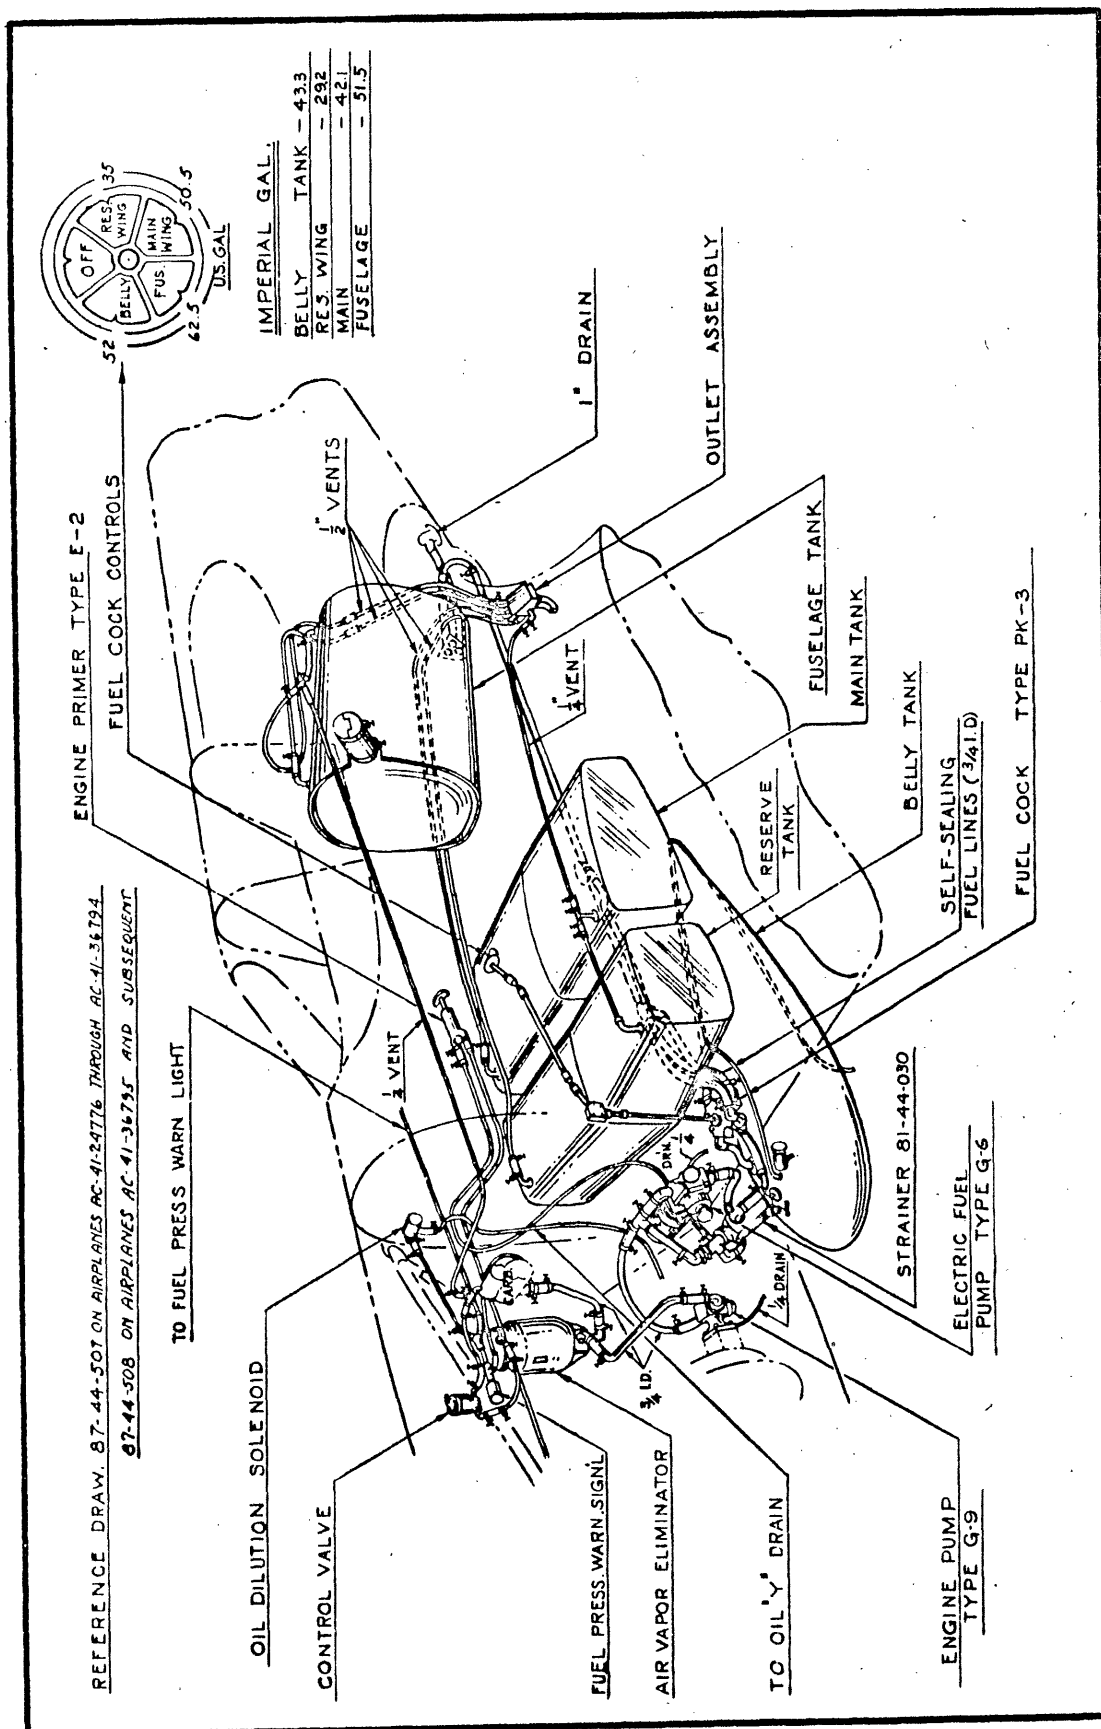

Figure 76 - Fuel System
(1) Tanks. - There are three self-sealing fuel cells and one belly tank, with a total capacity of 200 U.S. gallons (160 Imperial gallons). (See figure 76). The fuselage tank (62.5 U.S. gallons, (51.5 Imperial gallons) with a 5% expansion space) is located aft of the pilot, and forward of the stowage compartment door. The reserve tank (35 U.S. gallons, (29.2 Imperial gallons) with a 3% expansion space) and the main tank (50.5 U.S. gallons, (42.1 Imperial gallons) with a 3% expansion space) are located in the wing under the fuselage. The former forward of the latter. The belly tank, 52 U.S. gallons (42.8 Imperial gallons) is slung under the wing parallel to the airplane centerline. It may be released in flight by a L-21 Bomb Release Handle, actuated in the cockpit. All tanks are vented to the atmosphere. The wing tanks have main vent lines connected to the right end of each tank, and auxiliary lines on the left end. The wing and fuselage vent lines drain at an outlet assembly in the wing fillet, on the left side of the ship. This drain outlet has a scoop assembly (drawing 87-44-575) attached to its lower extremity, which helps to increase the pressure in the fuel cells at high altitudes. A vent line connects the carburetor fuel chamber and air vapor eliminator to the top of the wing reserve tank. The air vapor eliminator, type A-6, removes air trapped in the fuel before it flows into the carburetor. The carburetor fuel chamber vent line allows air to be expelled from the chamber when it is being filled, and prevents vapor lock. The passage is closed by a check valve when the chamber is full. All fuel tanks contain an internal division system to trap fuel, in a bank or side slip, assuring ample fuel available in such maneuvers.